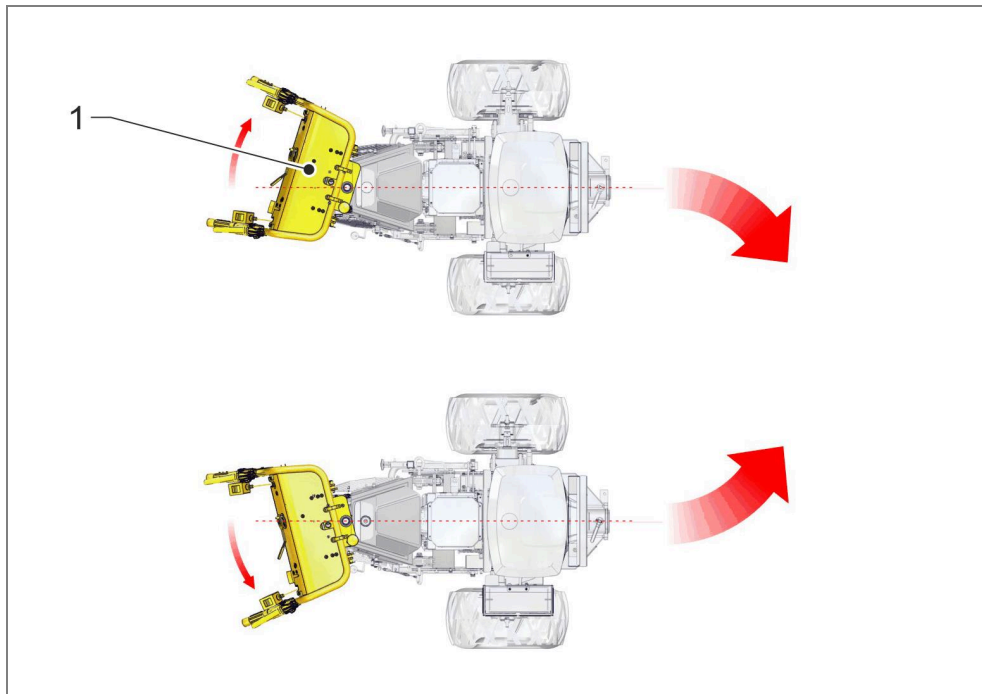

Fig. 13: Bar active steering - function 1
The single-axle carrier vehicle can be steered by turning the bar (1), similar to Fig. 13. The steering angle is proportional to the angle of rotation of the bar (1).